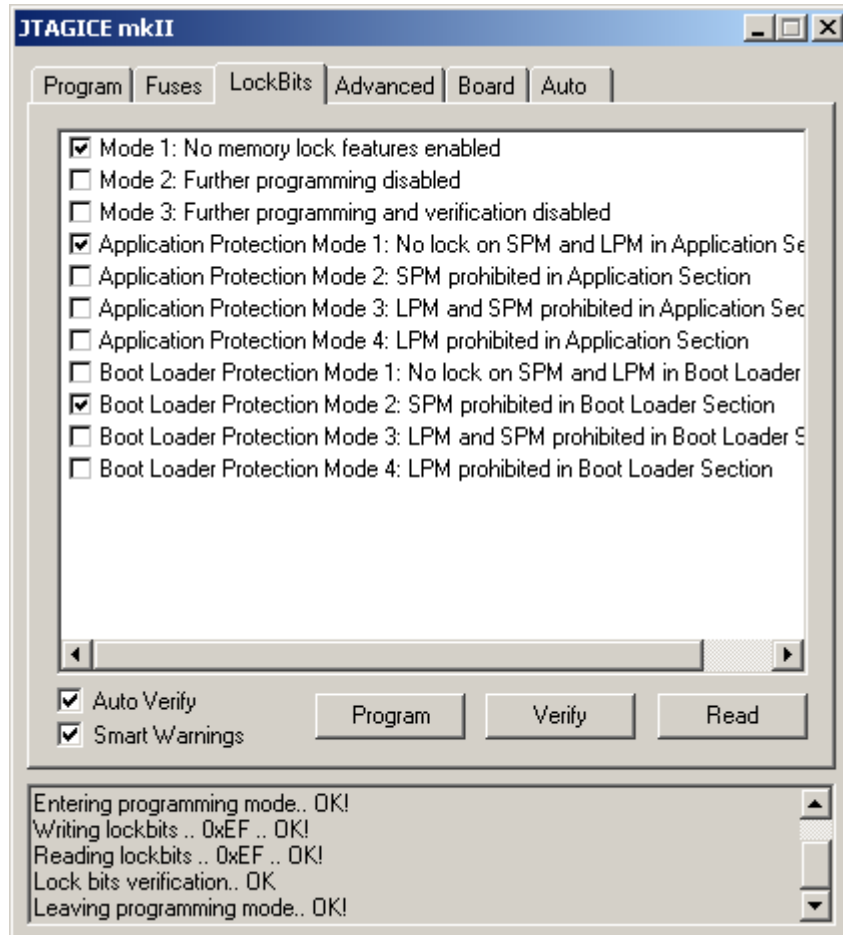

Figure 20: AVR Studio Lock Bits Window
The only way to erase this bit is to use JTAG ICE mkII or AVR ISP and run an erase cycle of the flash using AVR Studio. See figure 20.
1. Connect JTAG ICE to connector P10 on CC2420DB. Please refer to figure 20 for location of the connector